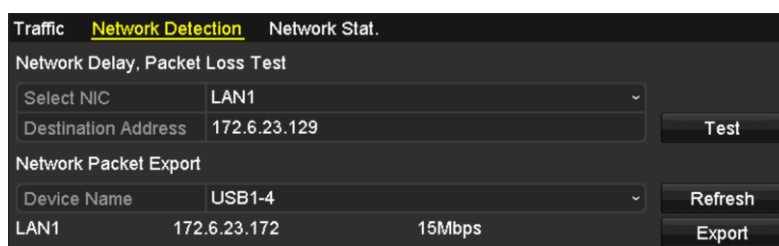

Figure 9-16 Network Detection Interface
Step 2 Click the **Network Detection** tab to enter the Network Detection menu, as shown in Figure 9-16.